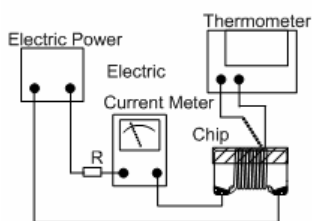

Fig. 6.3.4-1
- h. Definition of Rated Current (Irms): Irms is direct electric current as chip surface temperature rose just **15°C** against chip initial surface temperature ( $T_a$ ) (see **Fig. 6.3.4-2**).